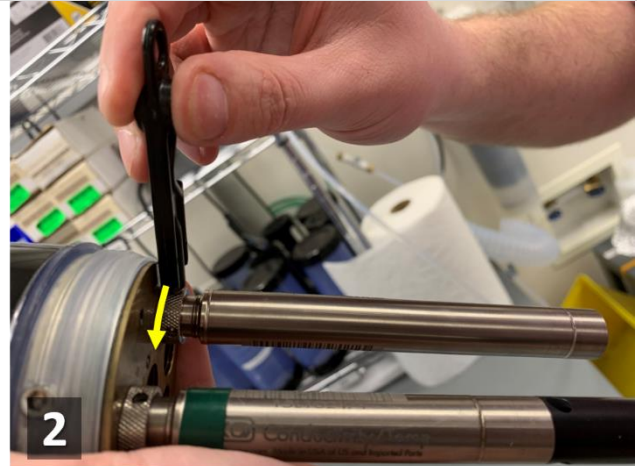

Figure 141. Use the Multisonde Probe Tool to Remove each Sensor Probe from the Multisonde
**STEP 5** | Remove each Multisonde probe using the Multisonde probe removal tool (Figure 141). Insert the probe tool securely into the locking nut and turn it left. Over time, removing/reinstalling sensors on the Multisonde wear down/strip the locking nuts. Ensure the tool is securely in the hole before turning and try not to over-torque when removing to prevent the tool from stripping the nut.